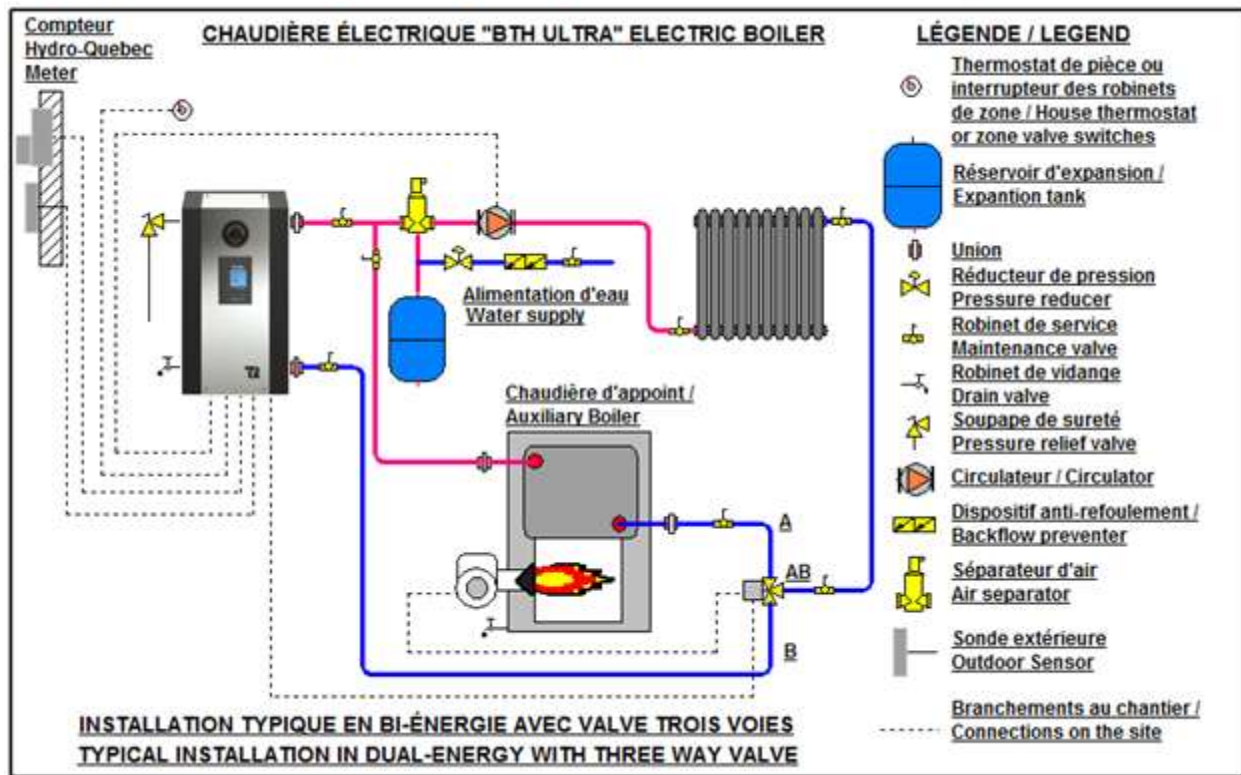

Figure 8 : Typical installation with three-way valve
N.B.: Make sure to select the appropriate port A, B and AB when making the connection of the piping (see fig.8)